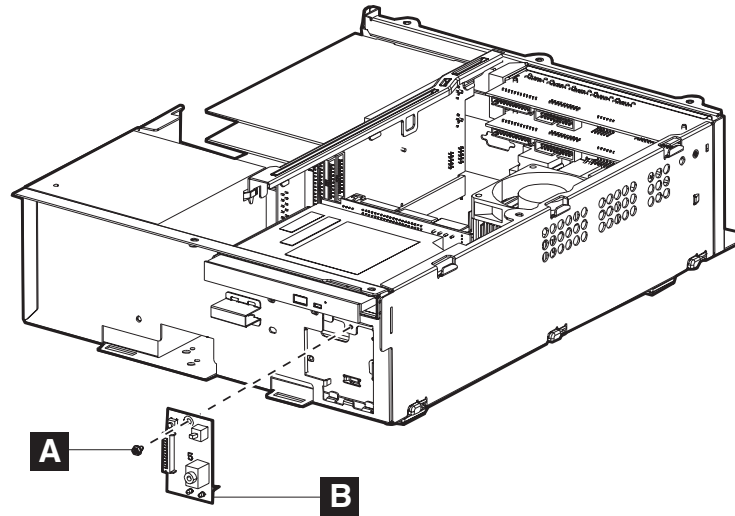

Figure 35. Removing the control switch card
2. See Figure 35. Remove the screw (**A**) holding the card in place.